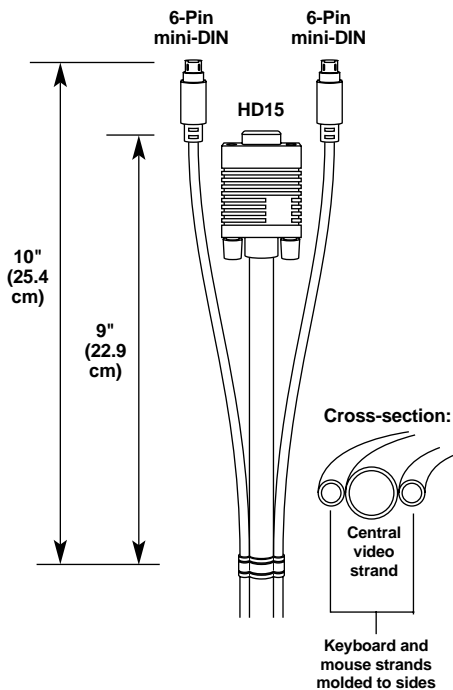

Figure 3-1. The ServSwitch Wizard cables.
- 10-ft. (3-m) PS/2 style three-in-one CPU-Extension Cables for attaching your PC CPUs to the Switch. As shown in Figure 3-1 in **Section 3.3**, these cables have keyboard and mouse strands with 6-pin mini-DIN connectors bonded to a central video strand with HD15 connectors. (If you ever need to replace them, or if you ordered the ServSwitch Wizard only, these cables are available separately as product code EHN408-0010.)
Both the User-Extension Cable and Premium Extender Cable, as well as the CPU-Extension Cable discussed later in this section, are built to the special three-in-one design shown in Figure 3-1 on the next page. The central coaxial video strand of each cable is molded to the keyboard and mouse strands on either side, and the ends of its video strand are one inch (2.5 cm) longer than the ends of the other strands, so that the weight of the composite cable can be borne by the video connector's screwlocks. To help you tell the otherwise identical keyboard and mouse strands apart, the keyboard strand is labeled "K" and colored orange, while the mouse strand is labeled "M" and colored green.
Next, connect each computer or (in cascaded systems) subsidiary ServSwitch Wizard to your single/master Switch. If you ordered a ServSwitch Wizard Kit, your Switch will have come with two or four 10-ft. (3-m) CPU-Extension Cables—which also have the three-in-one design shown in Figure 3-1—that you can run from the CPU’s or subsidiary Switch’s video, keyboard, and mouse ports to the matching ports on the single/master Switch.